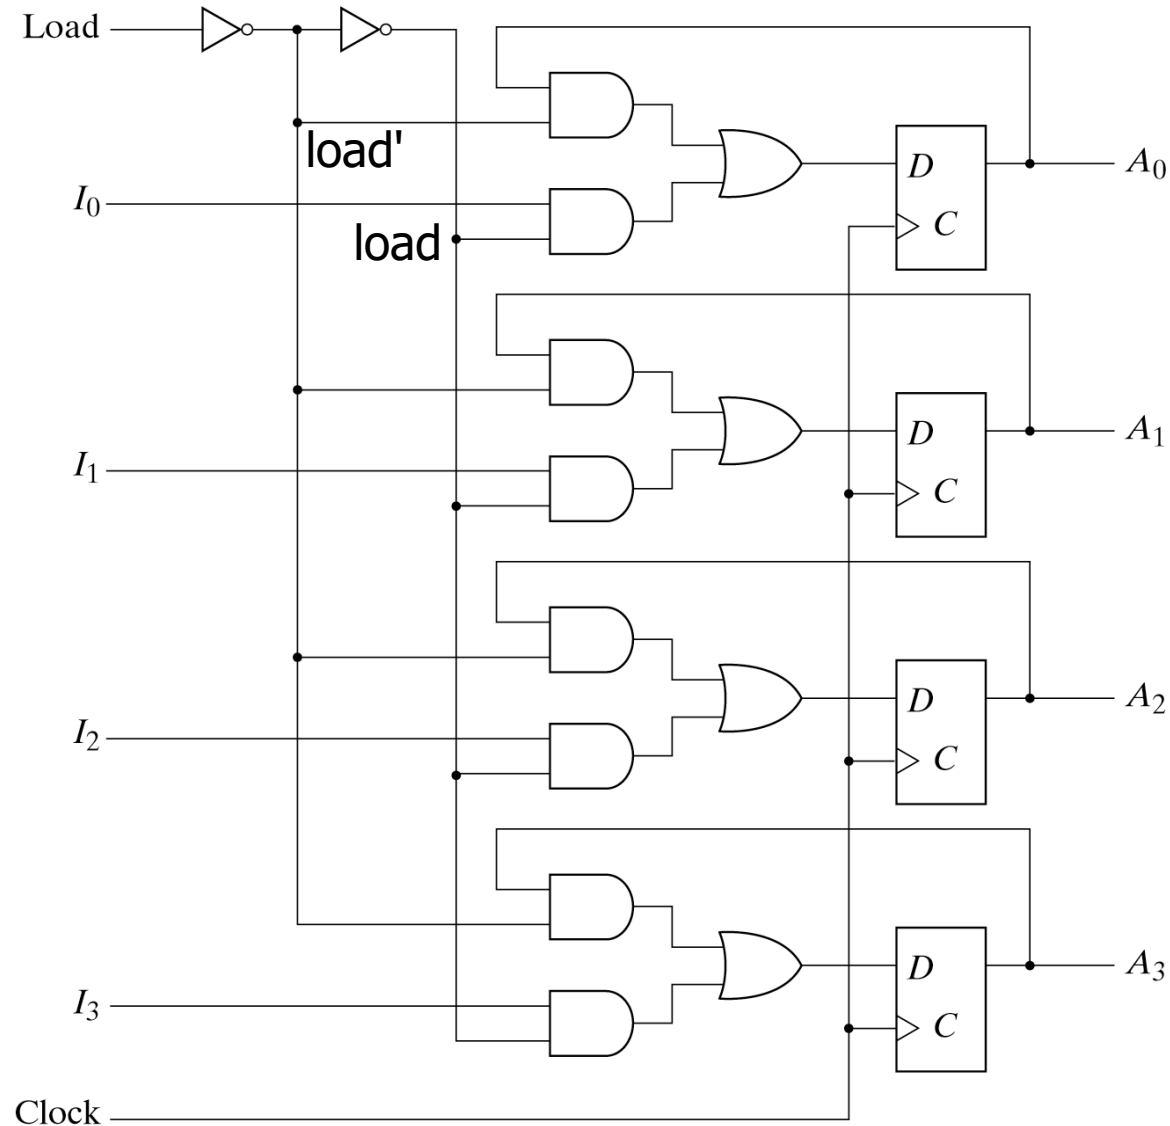

Fig. 6-2 4-Bit Register with Parallel Load
- A 4-bit register with a load control input that is directed through gates and into the D inputs of the flip-flops is shown in Fig 6-2